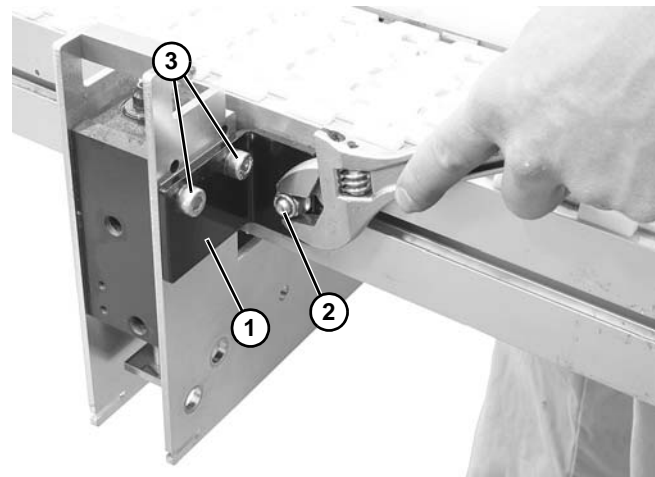

**Figure 10**
2. Rotate lift and locate station so that the tabs (**Figure 10, item 1**) on both sides can be inserted into the channel (**Figure 10, item 2**) of the conveyor.